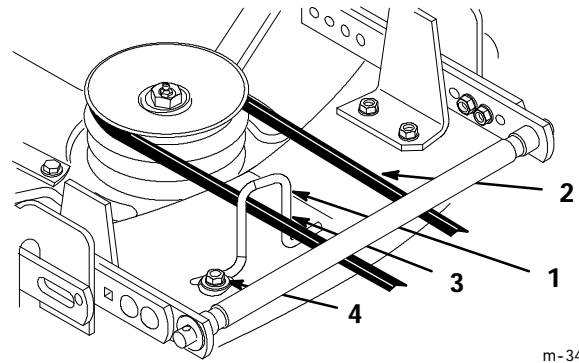

Figure 13
- 9. Loosen the belt guide bolt (Fig. 13).
- 10. Adjust the belt guide so that it just touches the belt on the inside arm of the guide, toward the center of the deck (Fig. 13).